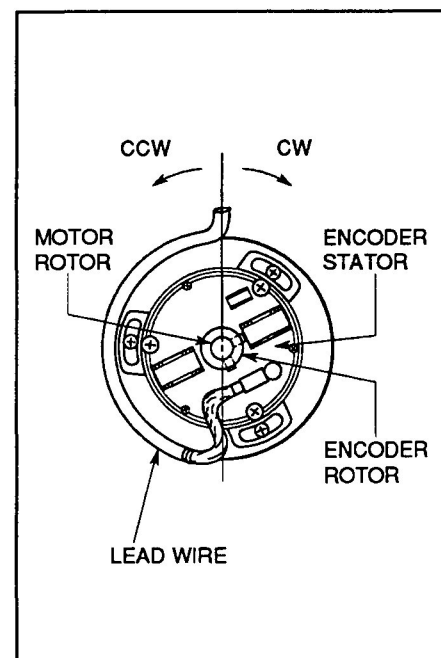

Figure 4. Encoder / Motor Stator and Rotor Configuration.
14. If the meter indicates a mechanical angle outside $\pm 9^\circ$, adjust encoder rotor coupling as follows (Refer to Figure 4.):
15. If the meter indicates a mechanical angle within $\pm 9^\circ$, adjust the relationship of the encoder stator as follows (Refer to Figure 4.):